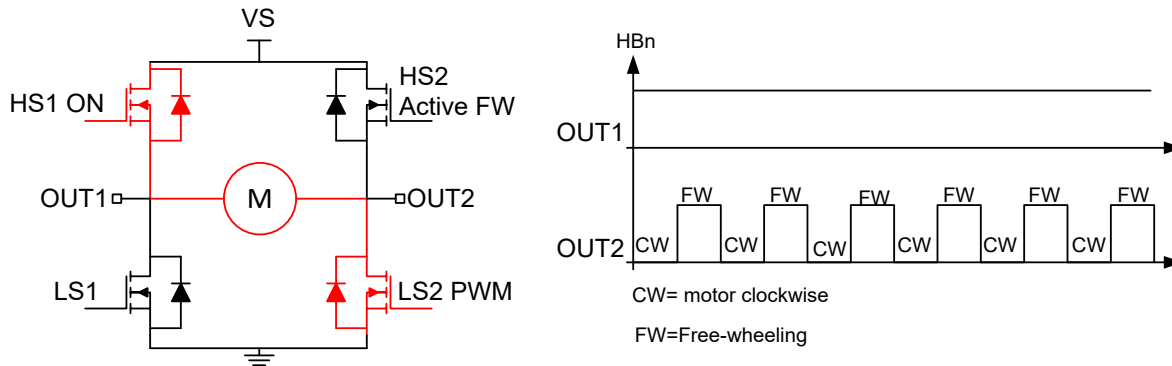

Figure7. PWM Operation on OUT2
An illustration is shown in Figure7 with OUT1 and OUT2 driving a DC brush motor. With this configuration, HS1 is permanently driven while LS2 is driven in PWM operation. HS2 serves to active free-wheeling (FW) the motor current load, reducing the power dissipation of the device.